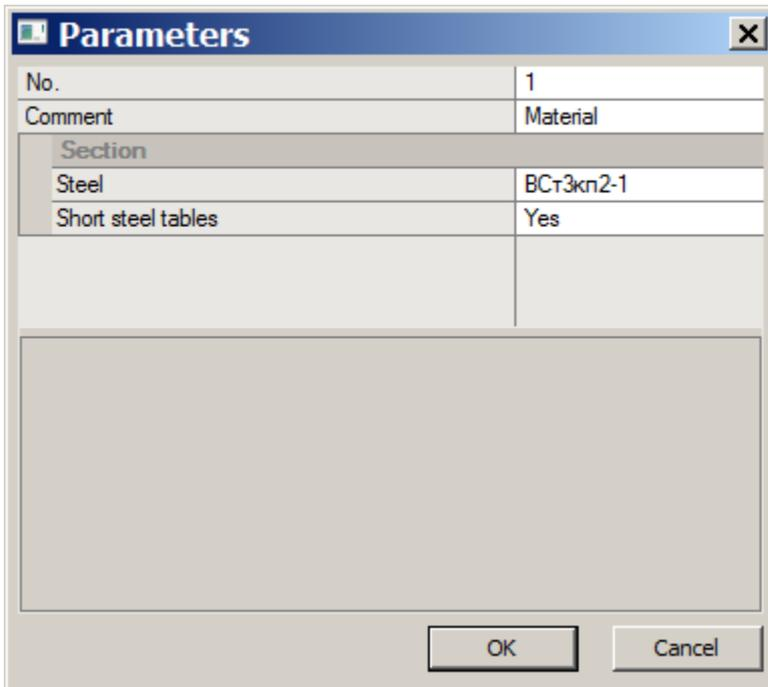

Figure 3.11 **Parameters** (for materials) dialog box
- ⇒ In the **Parameters** dialog box (see Fig.3.11), in the **Steel** list box, define the steel grade **BCr3kп2-1** (it will be applied to all elements).